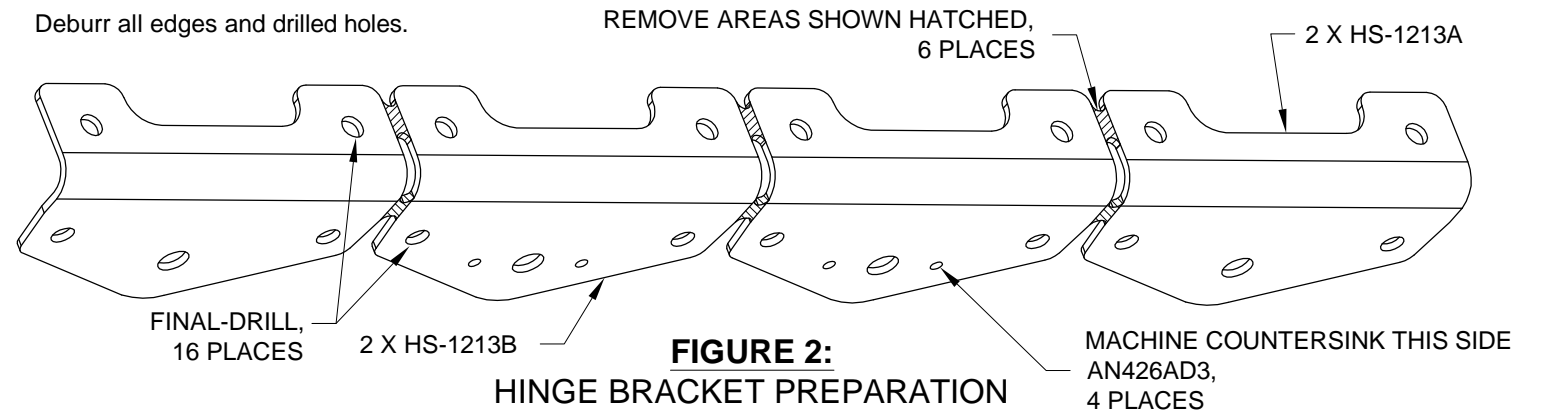

FIGURE 2:
Step 5: Machine countersink the HS-1213 Hinge Bracket at the nutplate attach rivet holes for 3/32 inch rivets per call-out in Figure 2.
Step 6: Final-Drill #12 the HS-1213 Hinge Bracket through all of the 3/16 inch holes as called out in Figure 2.
Step 7: Trim the HS-1213 Hinge Bracket to make the HS-1213A Inbd and HS-1213B Outbd Hinge Brackets by removing the material shown hatched in Figure 2.